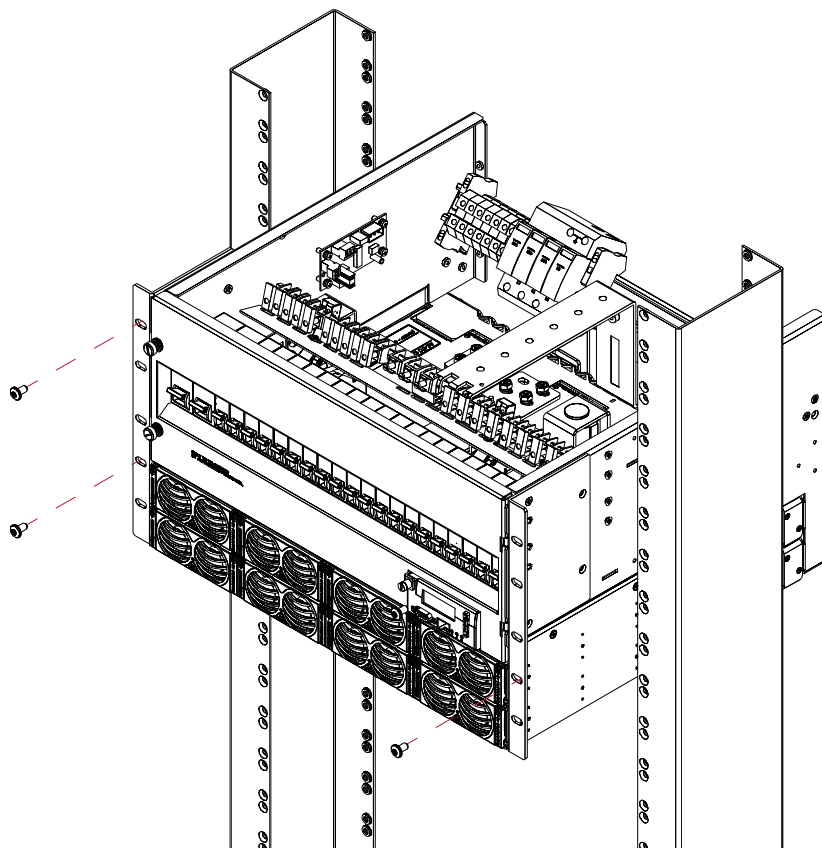

Figure 4-1 Mounting the Subrack (6U system shown)
3. Fasten the subrack into the cabinet or relay rack by using four M6 x 12mm screws and the mounting brackets on the front left and right side of the subrack. Tighten the screws to 8Nm (Figure 4-1).